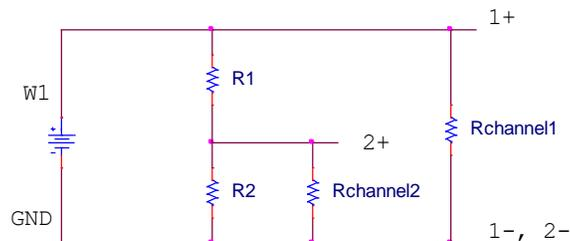

Figure A-7.
- The more exact model of this measurement is given in Figure A-7, where $R_{channel1}$ and $R_{channel2}$ represent the effective internal input resistances of the analog input channels of the Analog Discovery. The effective input resistance of Channel 1 can be ignored (Do you know why?), but the input resistance of Channel 2 affects the measurement. Using the measurements above, expressions for parallel circuit (R_2 and $R_{channel2}$) and the voltage divider expression, estimate $R_{channel2}$.